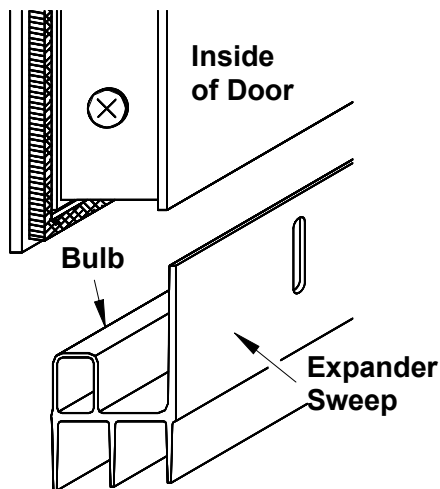

Fig. 1
1. Position expander sweep tight to the bottom inside of door. See Fig. 1.